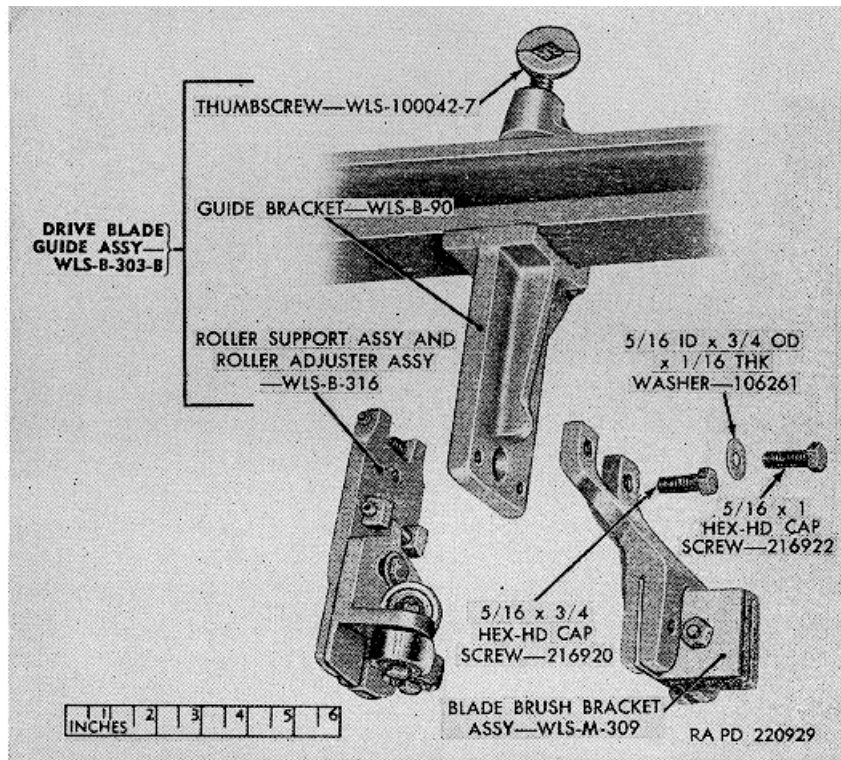
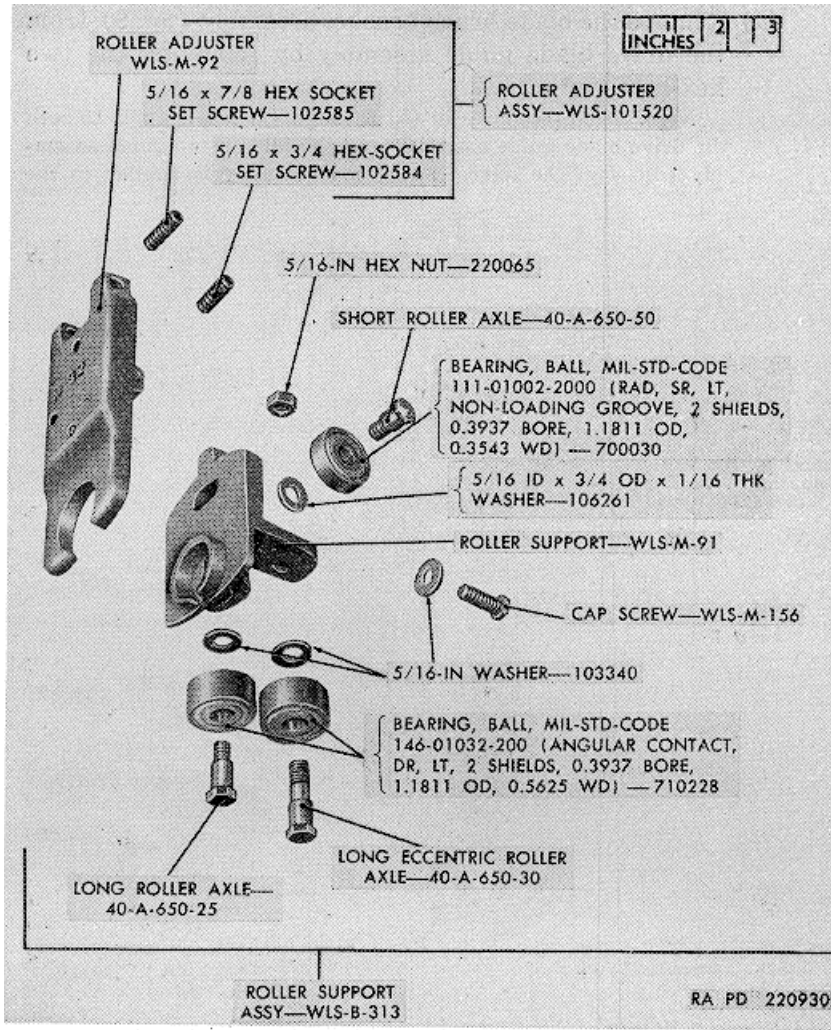

Figure 9. Roller support assembly and roller adjuster assembly and blade brush bracket assembly-exploded view.
Figure 10. Roller support and roller adjuster assemblies-exploded view.
- (1) *Removal.*
- (a) Remove the blade brush bracket assembly (fig. 9) from the drive blade guide assembly by removing the two hex-head cap screws.
- (b) Remove the hex-head cap screw and washer (fig. 9), remove the two upper hex-socket setscrews in the roller adjuster (fig. 10), and separate the roller support assembly and roller adjuster assembly (fig. 9) from the guide bracket.
- (d) Remove the hex-nut (fig. 10) and slip the long eccentric roller axle out of the ball bearing and remove the ball bearing and washer.
- (e) Unscrew the long roller axle (fig. 10) and remove the ball bearing and washer.
- (f) Unscrew the short roller axle (fig. 10) from the roller support and remove the ball bearing and washer.
- (a) Slip the long roller axle (fig. 10) through one of the ball bearings, place a 5/16-inch washer on the axle, and install it into the roller support.
- (b) Slip the short roller axle (fig. 10) through the ball bearing, place a 5/16 ID x 3/4 OD x 1/16 thick washer on the axle, and install it into the roller support.
- (c) Slip the long eccentric roller axle (fig. 10) through the ball bearing and place a 5/16-inch washer on the end of the axle. Slip the axle through the roller support and install the 5/16-inch hex nut.
- (d) Place the roller support assembly (fig. 10) against the flat side of the roller adjuster and install the 5/16-inch washer and the cap screw through the elongated hole in the support.
- (e) Install the two 5/16 x 3/4 hex-socket setscrews (fig. 10) into the lower end of the roller adjuster to hold the roller support assembly firmly.
assembly (fig. 9) against the inner side of the guide bracket, with the ball bearings facing out.
- (g) Install the 5/16 ID 3/4 OD 1/16, thick washer and 5/16 x 1 hex-head cap screw (fig. 9) through the elongated hole in the guide bracket and into the roller adjuster to hold the roller support assembly and roller adjuster assembly to the bracket.
- (h) Install the two 5/16 x 7/8 hex-socket setscrews (fig. 10) into the upper end of the roller adjuster.
- (i) Place the blade brush bracket assembly (fig. 9) against the outer side of the guide bracket of the drive blade guide assembly and secure the bracket assembly to the guide bracket with the two 5/16A x 3/4 hex-head cap screws.